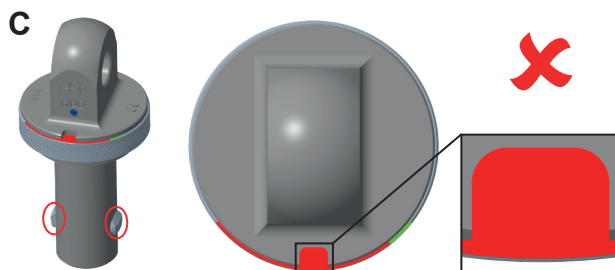

Fig. 6: Symbol **RED | No symbol visible** = PIP-RAPIDO is not ready for lifting
- **RED | No symbol visible** (Fig. 6)